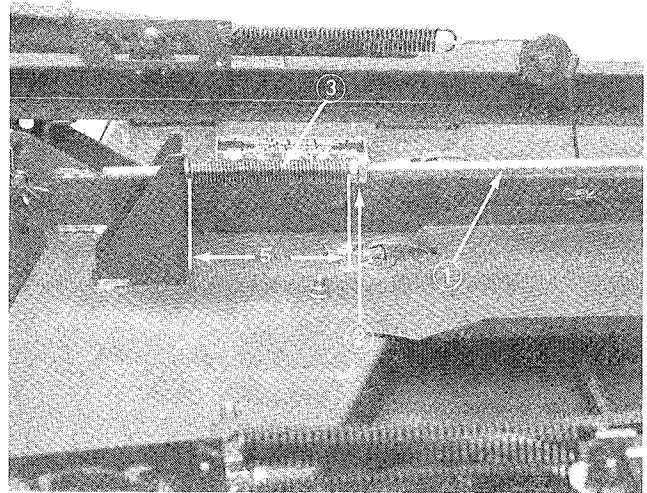

Figure 21
6. Install belt to drive and clutch pulley (Fig. 21).